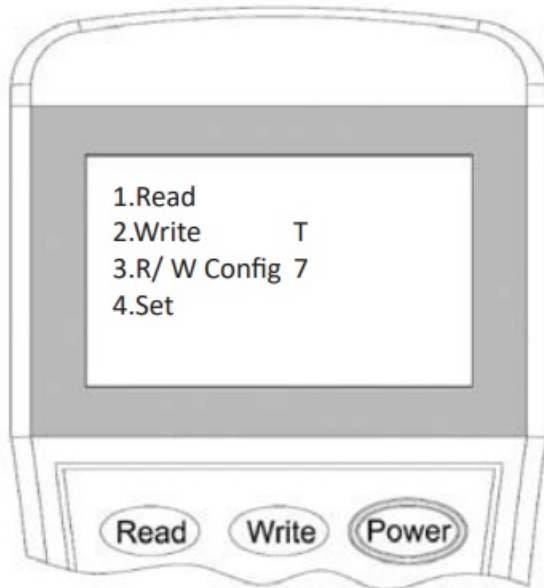

Figure 10
2. Switch-on the programming tool, then press button “3” to enter to Configuration mode (Figure 10).